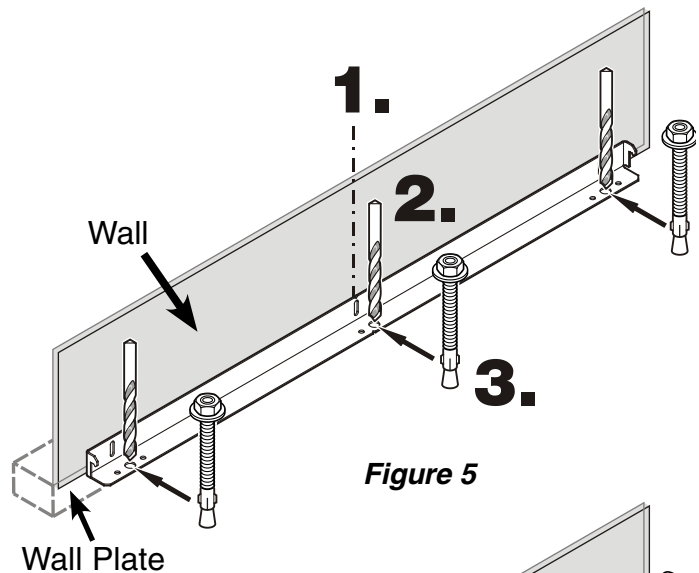

Figure 5
Mounting the anti tipping device on concrete floors - Figure 5 - 6
2. Drill a 3/8" diameter hole in any position as shown in **Figure 5** using a carbide drill bit.